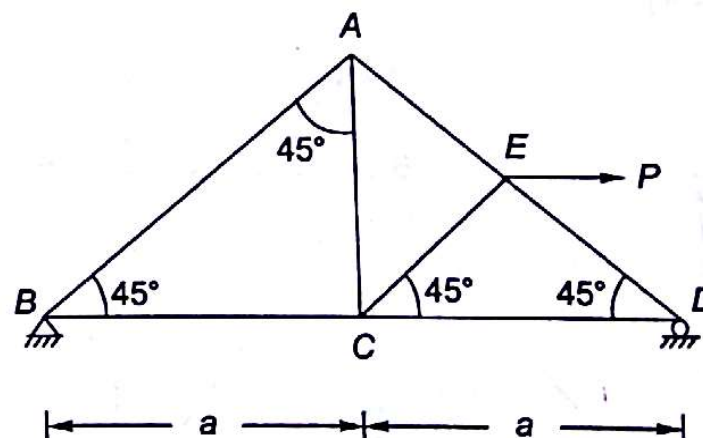

Fig. 4.41
4.12 A truss BAECD, hinged at B, roller supported at D, is subjected to horizontal force P at E as shown in Fig. 4.41. Use method of section or otherwise, determine force in member BC